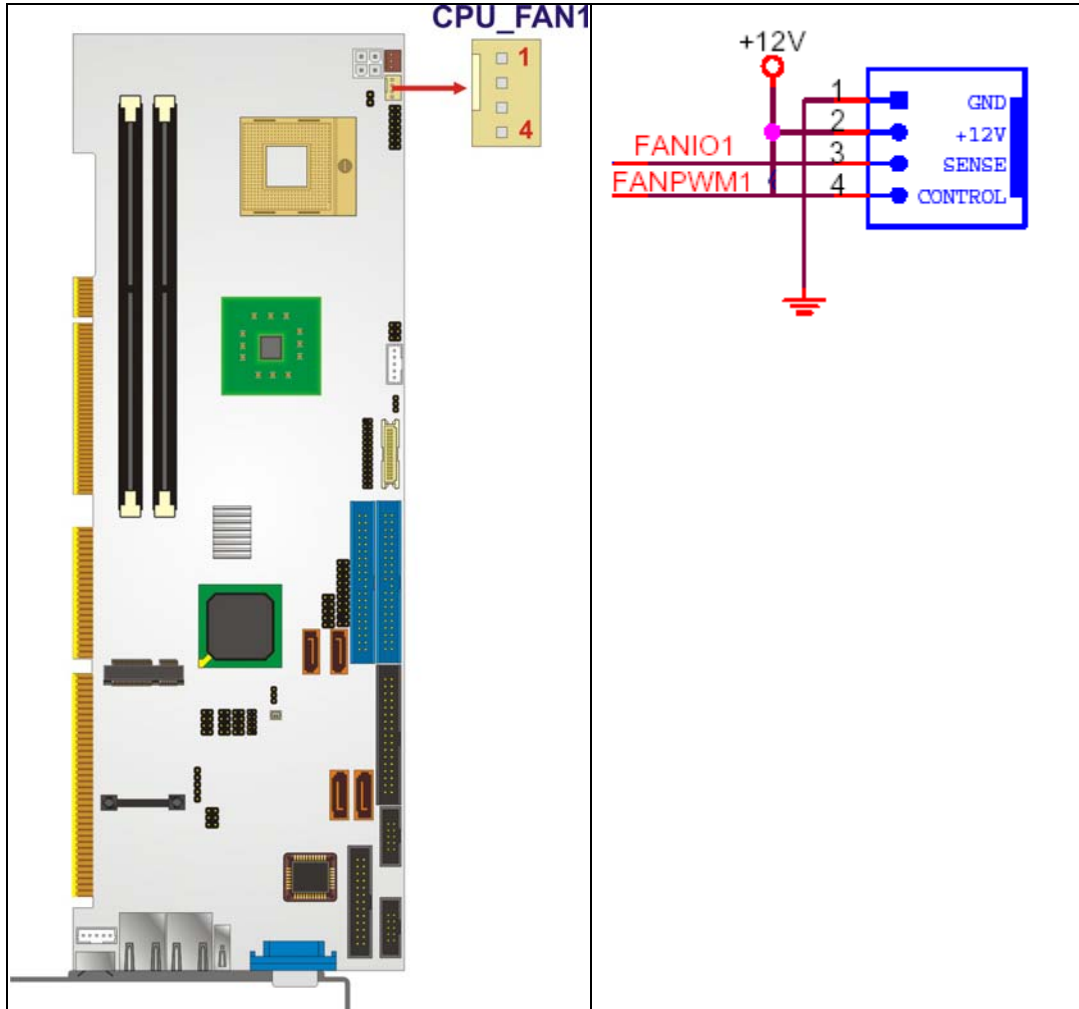

Figure 4-5: CPU Fan Connector Location
- CN Location:** See **Figure 4-5**